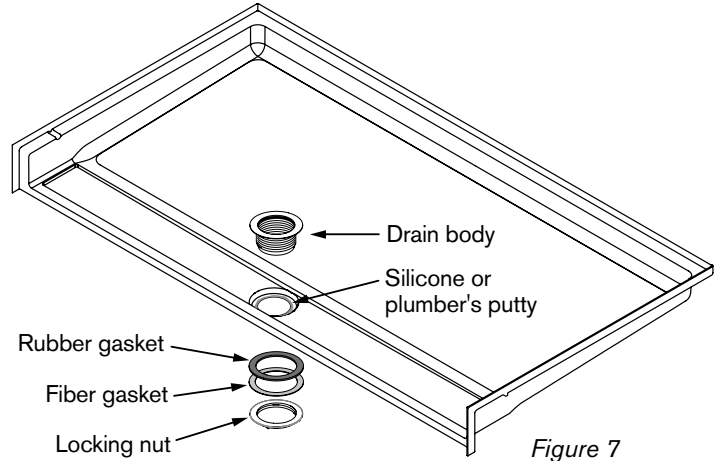

Figure 7
- 7 Apply silicone or plumber's putty around shower pan drain hole on the inside of shower only. (Figure 7)